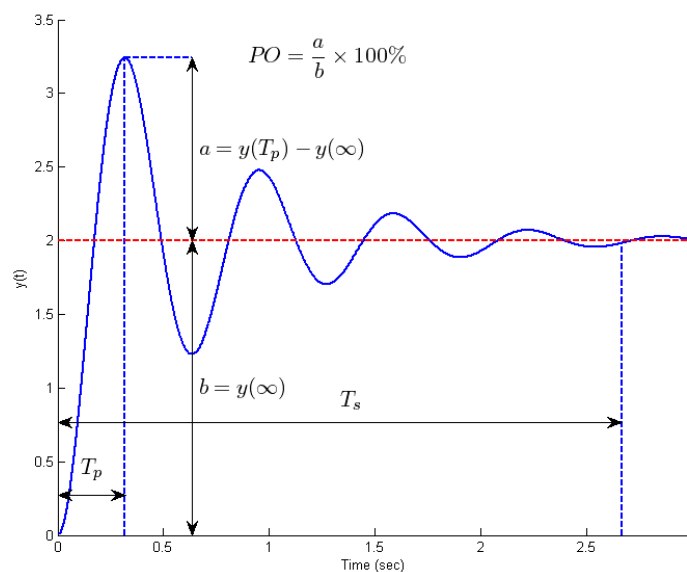

Figure 6: Second-order underdamped system characteristics
In this part you will examine the characteristics of an RLC circuit to determine the static gain, natural frequency and damping ratio. Figure 6 shows some of the important characteristics of the step response for an underdamped second order system including Percent Overshoot (PO), Time to peak (T_p), settling time (T_s), and steady state value ($y(\infty)$).